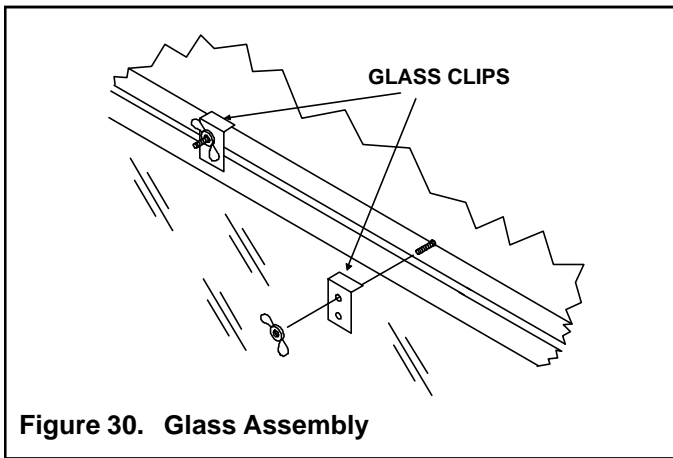

Figure 30. Glass Assembly
- Glass can now be reinstalled, followed by glass clips and wing nuts (see Figure 30). Wing nuts should be hand tightened only. Finish the installation by installing decorative door.